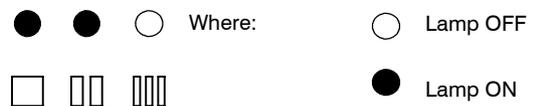

Fig. 13
- 6 Press the reset button D repeatedly (2 times) until the lamps F give the indication as in Fig. 13 (boiler mode).